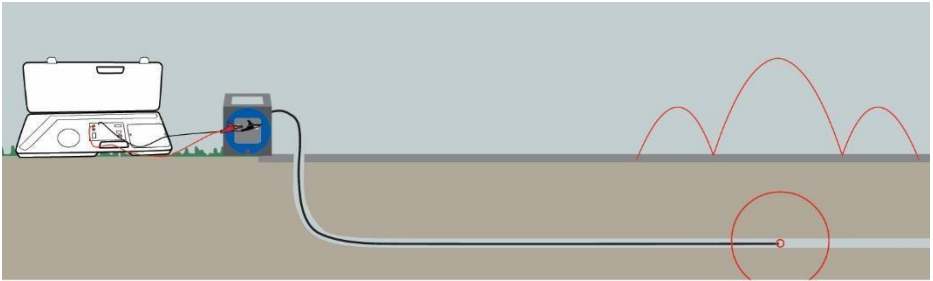

Figure 3
2. Connect the red alligator clip of your wire tracker to the red knob on the Pro65™ and connect the black alligator clip to the other knob next to the red one. See figure 3 below.